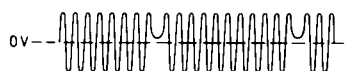

Fig. 16
- Adjust R3016 (Balance) so that the signal is symmetrical relative to the zero level (see Fig. 16).